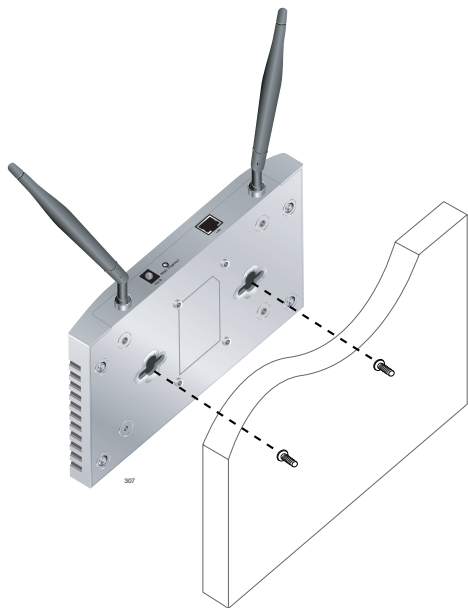

Figure 6. Aligning the Access Point for Mounting on the Wall
- Align the keyholds on the back with the screw heads, as shown in Figure 6.